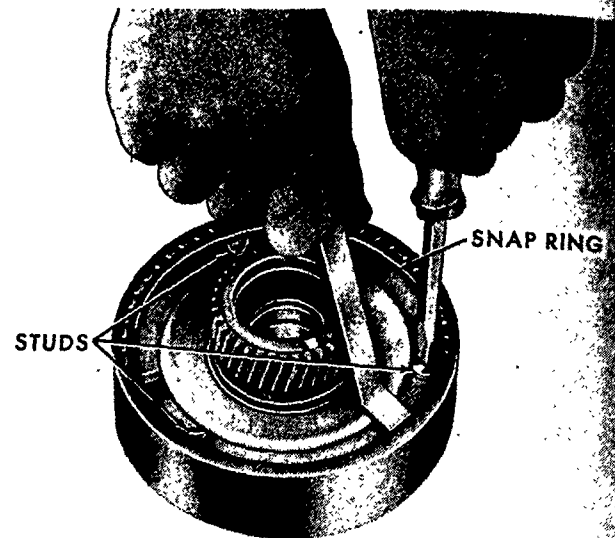

Figure 113
3. Using Lever No. N-480-3 and a screwdriver, as shown in Figure 113, engage the lowest step of each stud to the snap ring. Repeat this operation for engaging the second step and then the third step of each stud. At this point, the pressure of the spring washer against the snap ring will have been eliminated and the spiral retainer can be removed.
4. Using the lever and a screwdriver, as shown in Figure 113, depress the compressor and hold it in position by engaging the lowest step in each stud to the snap ring. Repeat this procedure to engage the second step and finally the third step of each stud. At this point, the spring will be sufficiently